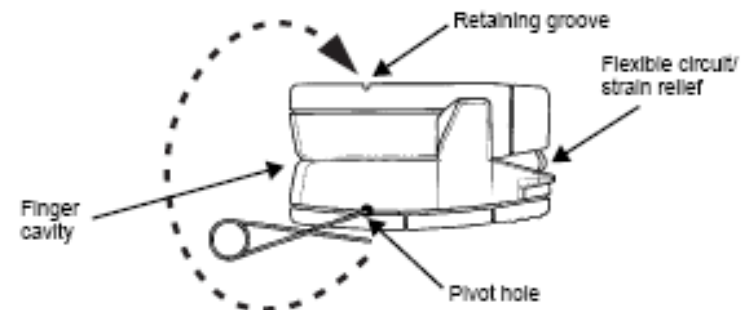

Figure 7. Replacing the spring.
1. Insert the ends of the new spring into the pivot holes (Figure 7) on both sides of the Onyx. Make sure that the spring is positioned as indicated in the illustration.